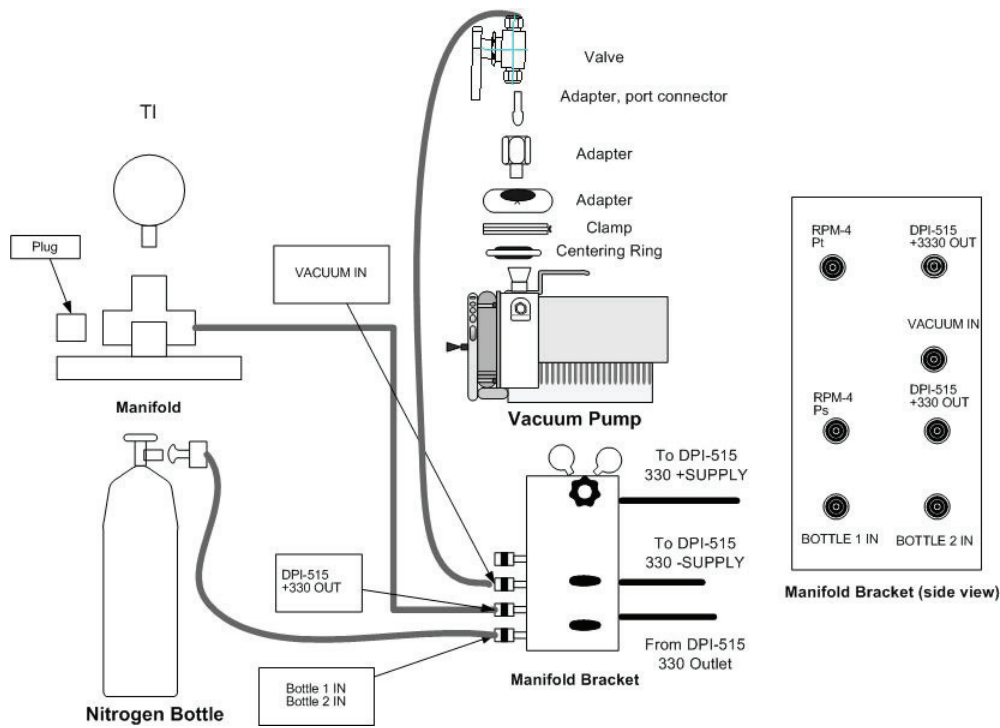

Figure 1. Pressure and vacuum check setup.
b. Connect equipment as shown in figure 1.
- b. Connect equipment as shown in figure 1.